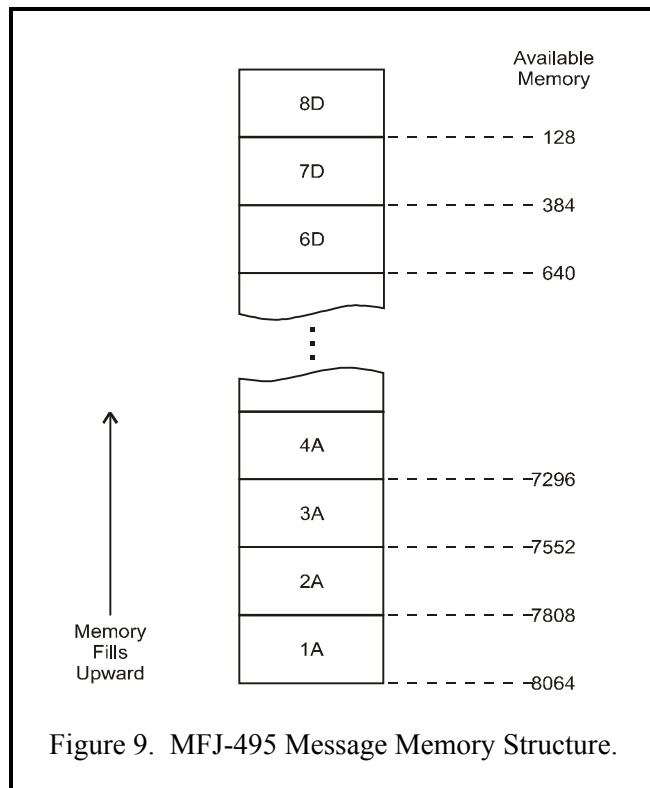

Figure 9. MFJ-495 Message Memory Structure.
The unit's 8K memory is organized with four banks of eight blocks of 256-bytes each, except the last block. This composes of 32 individual memory blocks arranged in a stack structure, illustrated in the diagram shown in Figure 9. The memory banks are labeled A through D. The total memory available is 7.875K (8064) characters, where 1K = 1024. Each memory block is nominally $\frac{1}{4}$ K (256) characters, except the last block 8D that has a capacity of 128 characters. However, an individual message may fill more than one memory block. When this happens, blocks are filled sequentially, moving upward in the diagram. If a message begins in block 1B or higher memory blocks, $\frac{1}{4}$ K is reserved for each of the previous memory blocks.